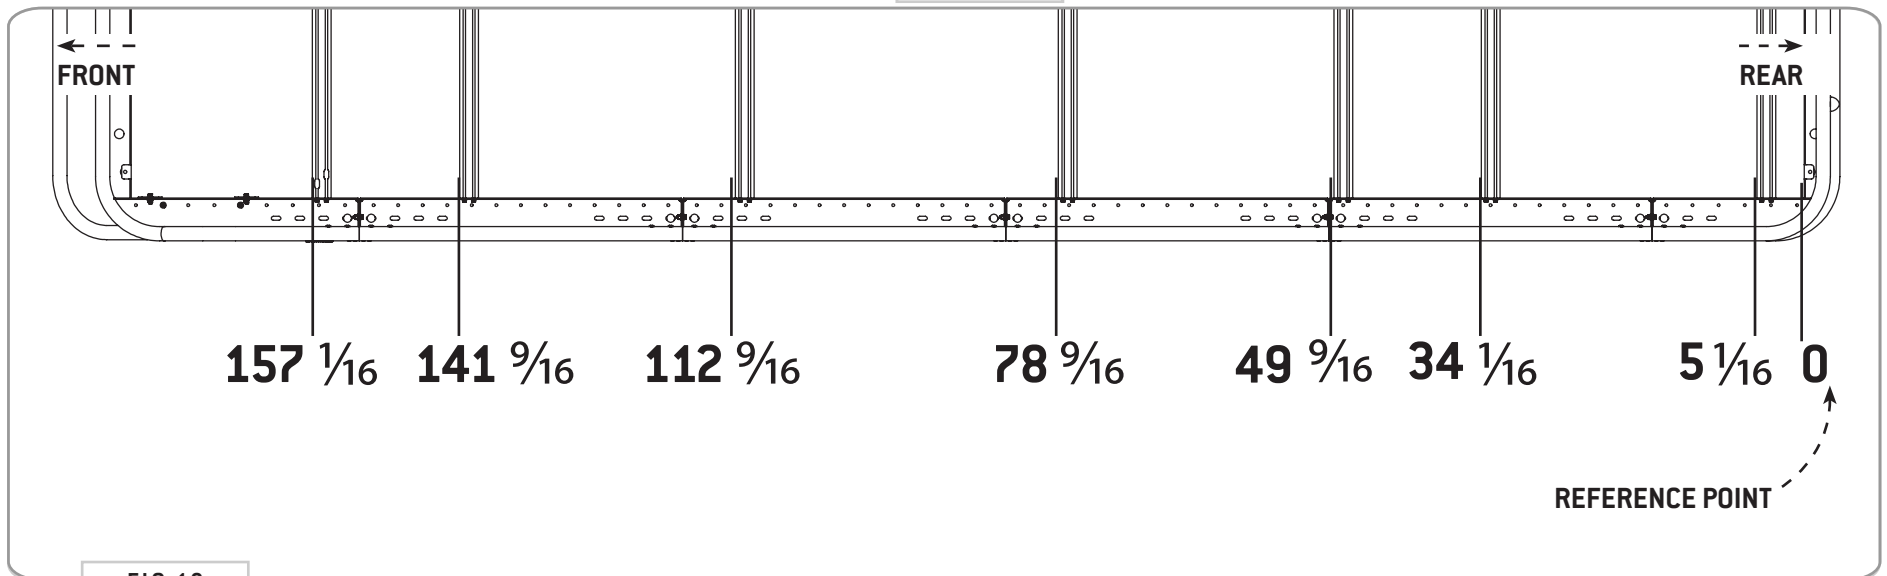

FIG 18
**7.1 Attach Crossbars:** Using (4ea) 1/4-20 Flanged Hex Bolts with Loctite (FIG 14), attach Crossbars to the rack in the locations shown in FIG 18. Be sure to measure both sides to ensure that the crossbars are square.